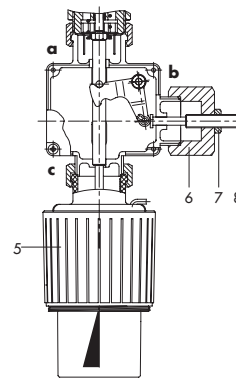

Fig. 4: Double adapter Do3, Type 2430 Thermostat and manual adjuster
Double adapter Do3 with manual adjuster Ba43 (Fig. 4) to close the valve manually or to limit the valve travel · Connection **c** for control thermostat, connection **b** for manual adjuster.
The **double adapter** is mounted between the valve (1) and control thermostat (5) in temperature regulators. An additional control thermostat (Fig. 4) is attached to connection **b** and **c**. The manual adjuster must be mounted to connection **b**.
The travel of the mounted unit acts directly (connection **c**) or over the lever (3, connection **b**) on the coupling pin (4). It moves the plug stem (2) and plug. The unit with the largest stroke is always linked to the plug stem. As a result, the manual adjuster (Fig. 4) acts as a travel stop.